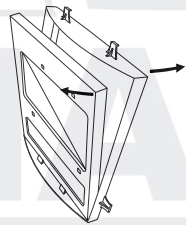

Fig.6
3. Fitting new cartridge (See figs.6)